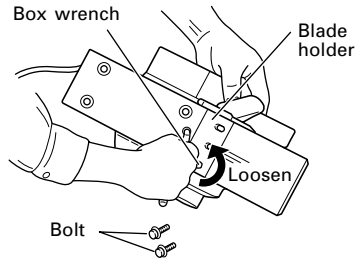

Fig. 4
(1) As shown in Fig. 4, use the accessory box wrench to withdraw the three bolts used to retain the cutter blade, and remove the cutter blade holder.
- (1) As shown in **Fig. 4**, use the box wrench to loosen the three bolts used to retain the carbide blade, and remove the blade holder.